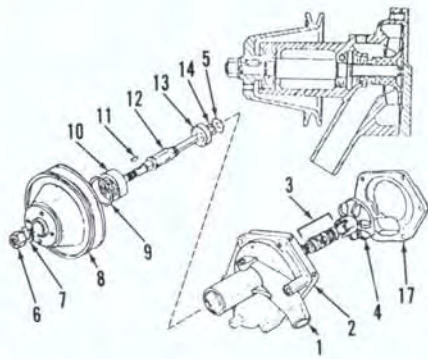

Fig. 74—Exploded and cross-sectional views of water pump assembly used on Model L260. Refer to Fig. 73 for identification of parts except for cover (17).
79. Refer to Fig. 74 for an exploded view of water pump. To remove pump, first remove radiator as previously outlined. Remove fan blades and fan belt. Disconnect by-pass hose, then unbolt and remove water pump.